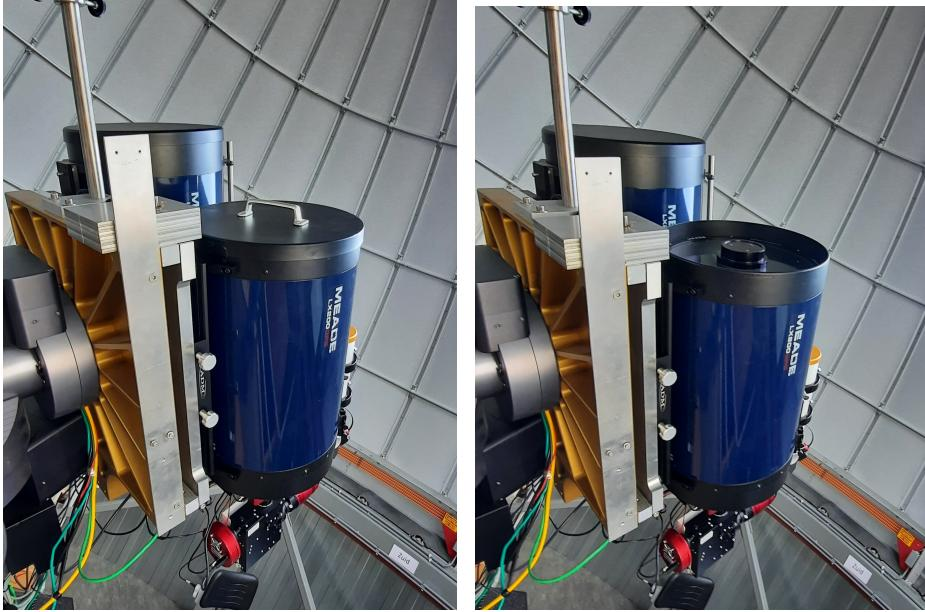

Fig. 2: The 30 cm Meade telescope with the lid on (left) and removed (right)
- The telescope has a lid on top (Fig. 2, left) to protect it when no observations take place. Remove the lid so that observations can be preformed (Fig. 2, right) . To be able to reach the lid you can use the stairs located in the dome. Put the lid on one of the tables. Do not forget to put the stairs away from the telescope else the telescope might hit it during the observations.